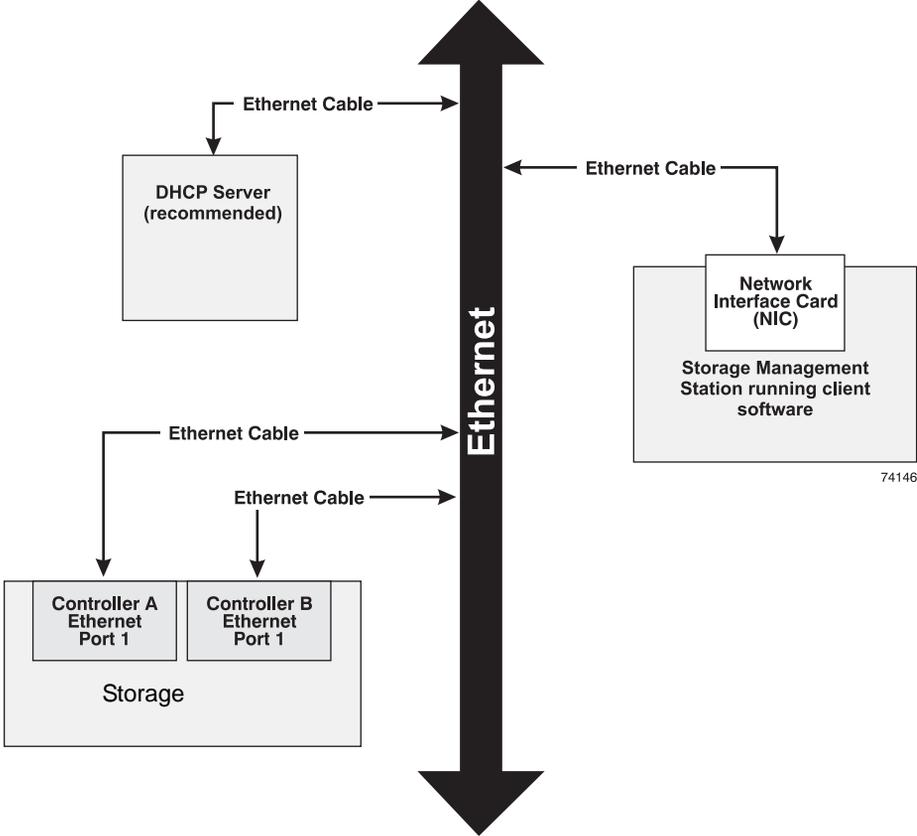

Figure 4 Out-of-Band Management Topology
**Out-of Band Management** – A method in which the controllers are managed directly from a management station through the Ethernet connections on each controller. See Figure 4 on page 10.
**Dynamic Host Configuration Protocol (DHCP) Server** – Software that runs on a server (host) that allows network administrators to manage and automatically assign internet protocol (IP) addresses from a central point. When the controllers start up TCP/IP operations, they broadcast a request for address information. The DHCP server receives the request, assigns an IP address for each controller, and sends the address information back to the controllers along with other required configuration information.